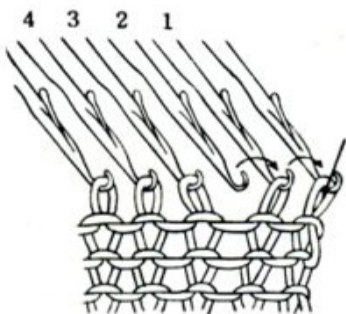

Fig. 56
- a. Use 3 needle transfer tool, move the stitches out to the adjacent empty needles. (See Fig. 56)
- b. To fill in empty needle pick up stitch from either side of empty needle on lower row. (See Fig.56~59)